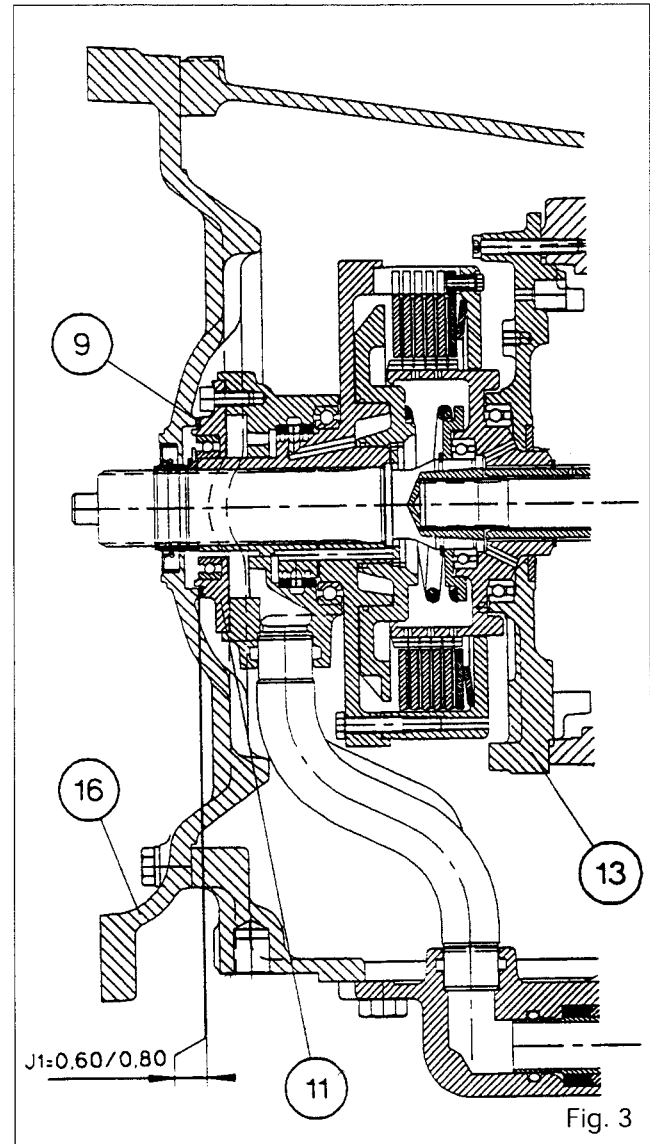

Fig. 3
**Clutch** - Pressure-loaded**Shimming the clutch assembly (Fig. 3)**
19. Remove the clutch assembly (47) from the primary shaft (33) with the tool used for procedure 16. Place a 2 mm thick shim (9) on the cover (11).
20. Grease the oil seal (57). Protect the splines on shaft (7) with protective device 3378012M1. Screw two studs in diametrically opposite positions on the spacer and refit the spacer (16) without applying Loctite. Tighten the bolts.
21. Position a dial gauge at the end of the shaft (7) and check the play, while moving the clutch assembly sideways.
**Note: Make sure that the clutch assembly is correctly positioned in contact with the cover (13) before pulling on the shaft (Fig. 3).**
22. Remove the spacer (16) and, according to the play measured, select a thickness of shims (9) to obtain a play of **J1 between 0.6 and 0.8**.
23. Remove the clutch and refit the PTO shaft (32) (see section 7E01).
25. Apply miscible grease on the shims (9) selected in operation 22 and place them on the pump cover (11).
26. Replace O-rings (15), (71), (28) and (29).
27. Refit the unions (72) and (66) and the pipes (10), (20), (65) and (70).
28. Clean the mating faces on gearbox casing and on the cover (61). Smear the mating face on the gearbox casing with Loctite 510 or equivalent.
29. Replace the dust guards (27) and the O-ring (63).
30. Fit the pipe (17), the flange (19) and the cover (61). Tighten bolts (31) to between 200 and 260 Nm.
31. Tighten bolts (38) to between 41 and 53 Nm and bolts (26).
54. If the bearing (50) was removed, refit it using a suitable fixture.
55. Install seals (48) and (49).
57. If the bearing (40) was removed, refit it with the sealing face towards the Dynashift using a suitable fixture. Fit the support (41) and the circlip (43).
58. Fit the spring (42) on the support (41).
59. Slide clutch housing (23) onto the input shaft (7).
60. Compress the spring with the tool used in procedure 49. Position bush (4), aligning two flats with the flats on the clutch housing (23). Replace the circlip (59) and position it correctly in its recess.
61. If the bearing (36) was removed, fit it using a suitable fixture, with the sealing face towards the Dynashift.
62. Position the hub with the bearing in the cover (39).
64. On cover (39) fit the latest plate (45) with the progressivity washer (77), placed as Fig. 3, the spacers (78) and bolts (60) tightened to 2.2 - 3 Nm. Position the other plates (45) and discs (44) on the hub (37), aligning their recesses.
65. Place the clutch housing (23) on the cover (39). Tighten the bolts (22) to a torque of 25.5 to 34.5 Nm.
66. Check the rotation of the hub (37) by hand.
67. Check that the oil seals (52) turn correctly in their recesses. Fit the rings after smearing them with miscible grease, ensuring that they do not protrude beyond the circumference of the clutch housing.